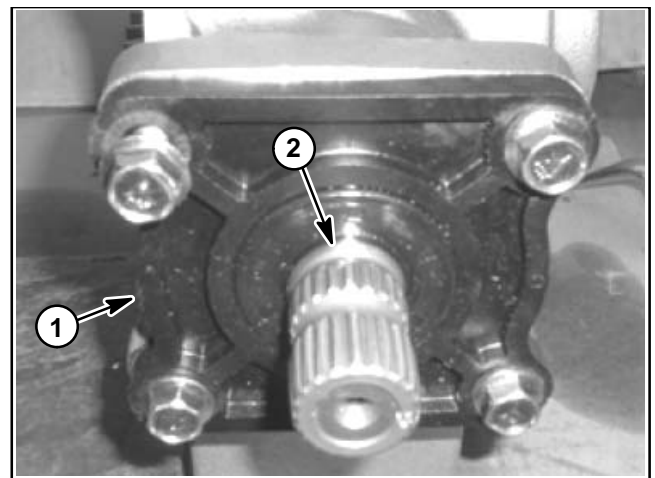

Figure 28
13. Position plug clip to correct location on cover plate and secure cover plate to gear case with five (5) flange head screws. Torque screws from **14 to 17 ft-lbs (19 to 27 N-m)**.
14. Install the pinion gear and then the input cover (Fig. 28). Secure cover with four (4) flange head screws. Torque screws from **14 to 17 ft-lbs (19 to 27 N-m)**.